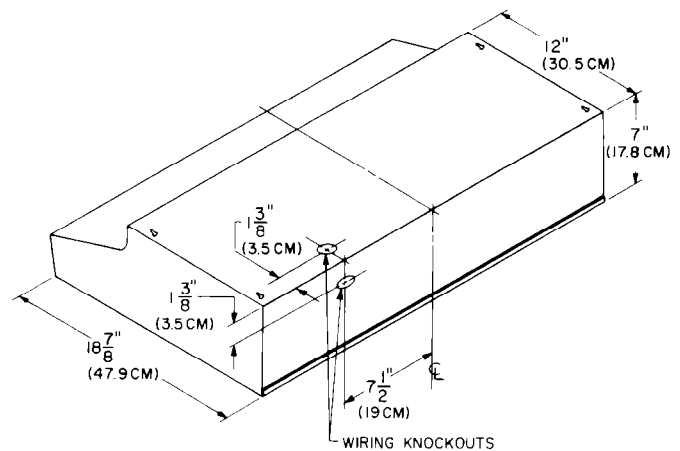

FIG. 1
2. Remove proper electrical knockout. See Figure 1.